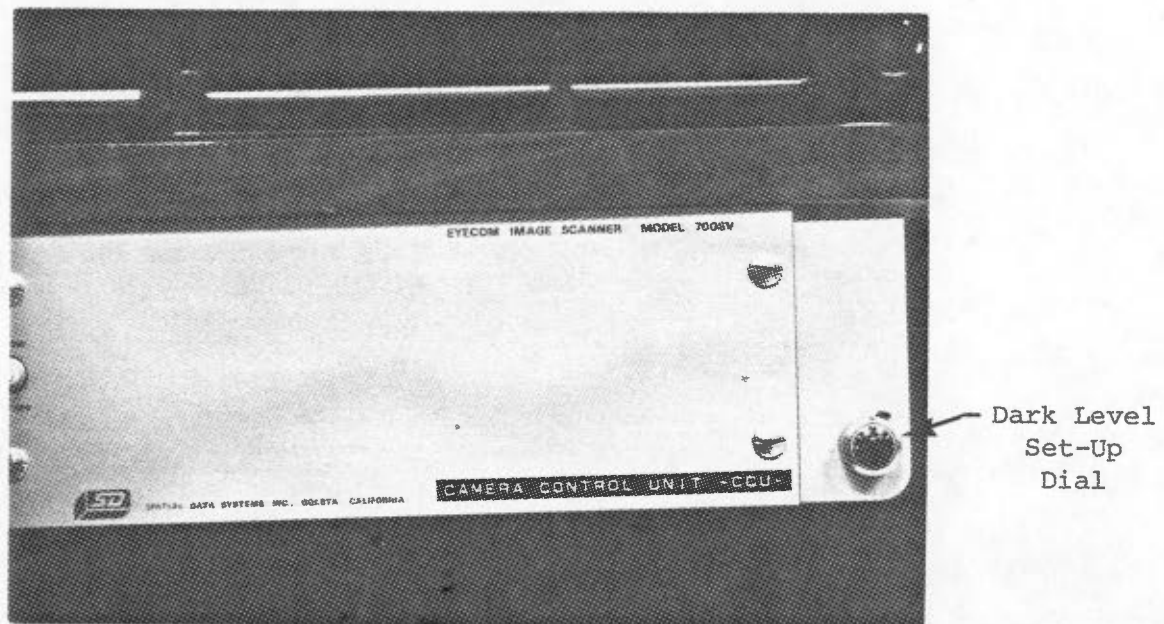

FIGURE 6.6. Camera Control Unit (CCU)
2. Adjust the **SET-UP** dial on the camera control unit (CCU) (Figure 6.6) until step number 16 (dark orange) falls